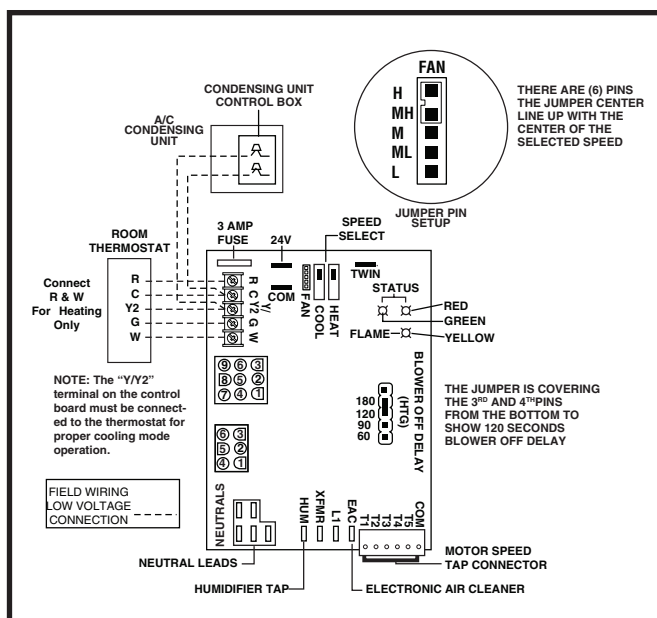

Figure 23. Nordyne Channel Board
are wired to the terminal strip on the integrated control in the furnace. Figure 23 contains the proper connections for heating only (two-wire) and heating/cooling (four-wire) applications. Recommended minimum wire gauge for thermostat wiring is shown in Table 5.
There are 5 blower configurations for the fan, heating and cool speeds. The settings are L(LOW), ML(MEDIUM LOW), M(MEDIUM), MH(MEDIUM HIGH), and H(HIGH). Refer to the blower tables provided in this insulation instruction for the correct settings. To change the HEAT and COOL setting, locate the speed selects on the control board. For HEAT and COOL, move the selector switch up or down to the desired setting. For the FAN speed, there is a jumper that will need to be moved. For instance, covering the last 2 pins(H and MH) will give a H(HIGH) fan setting. See Figure 23 for more detail.
The operating sequences for the heating, cooling, and fan modes are described below. Refer to the field and furnace wiring diagrams: Figure 23, Figure 31 & Figure 32.
- When the thermostat energizes the G terminal for continuous fan (without calling for heat or cooling), the indoor fan is energized on the selected FAN speed. See Figure 23.